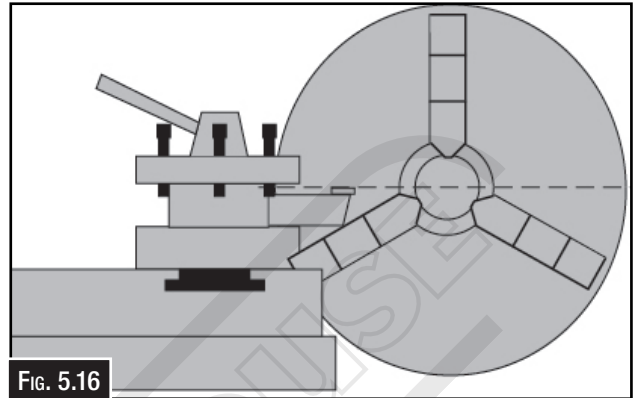

FIG. 5.16
The tip of the cutting tool should be set up so that it is in line with the centreline of the spindle, as illustrated in Fig. 5.16.
- d. Adjust the height of the cutting tool tip to meet the center tip, as shown. (Fig. 5.16)